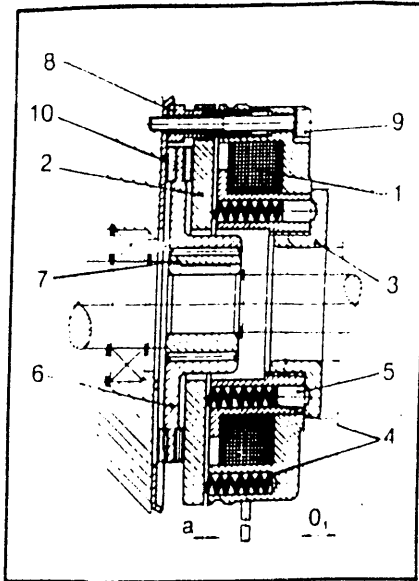

FIGURE 1
The Lenze Electromagnetic Release, Spring Set Brake - Type 14.448, as shown in Figure 1 produces its stopping torque by the use of multiple springs (4) exerting pressure against the armature plate (2). The armature plate, in turn, is forced towards the friction plate (8) (or mounting flange (10)) compressing the dual faced friction rotor (6) between the armature plate and the friction plate (or mounting flange). Figure 1 illustrates the position of the armature plate, friction rotor and friction plate in the set position. The rotor is internally splined to the hub (7) which is keyed to the shaft.
(NOTE: Air gap dimension is illustrated in Figure 1 denoted by "a").
The brake is supplied from the factory with the nominal torque settings. This torque can be reduced by unscrewing the torque adjustment ring (3) with a spanner within the limit of the "0," dimension given in Table 1 and depicted in Figure 1. The torque adjuster ring has detent action with torque variation per step given in Table 1.
In most applications, the brake needs practically no maintenance. However, after a long period of operation, or if the brake has a high duty cycle, adjustment of the air gap ('a' Figure 1) may be necessary. When the 'a max' value shown in Table 3 is exceeded, adjust the value back to 'a' using the air gap adjustment instructions described in Section V, step 9 of the assembly instructions.